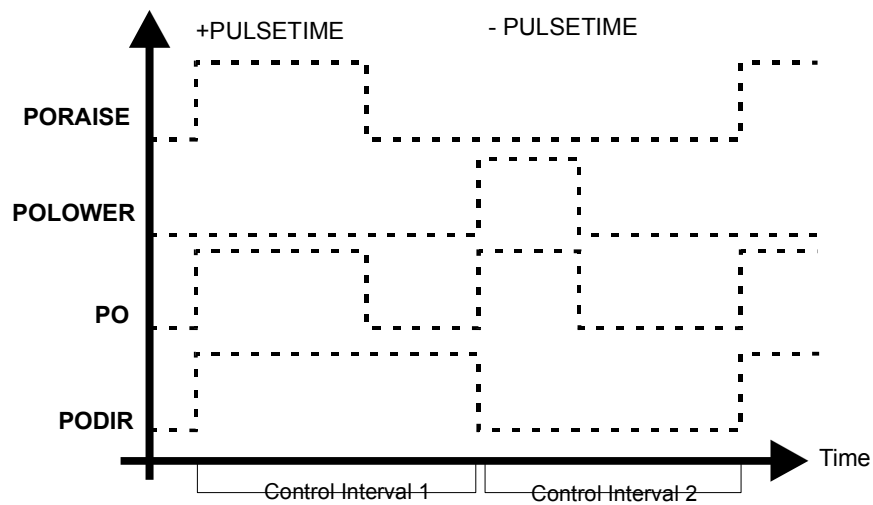

Figure 28 Example of pulse length control algorithm outputs
Figure 28 shows a sample of output pulses generated by the Pulse Length control algorithm. Keep the following things in mind when viewing Figure 28.
- The PODIR only changes at the beginning of a control interval. The sample pulse shown in Figure 28 has a configured Direction Change Delay (PDELAYDIRCHG) of Zero (0).